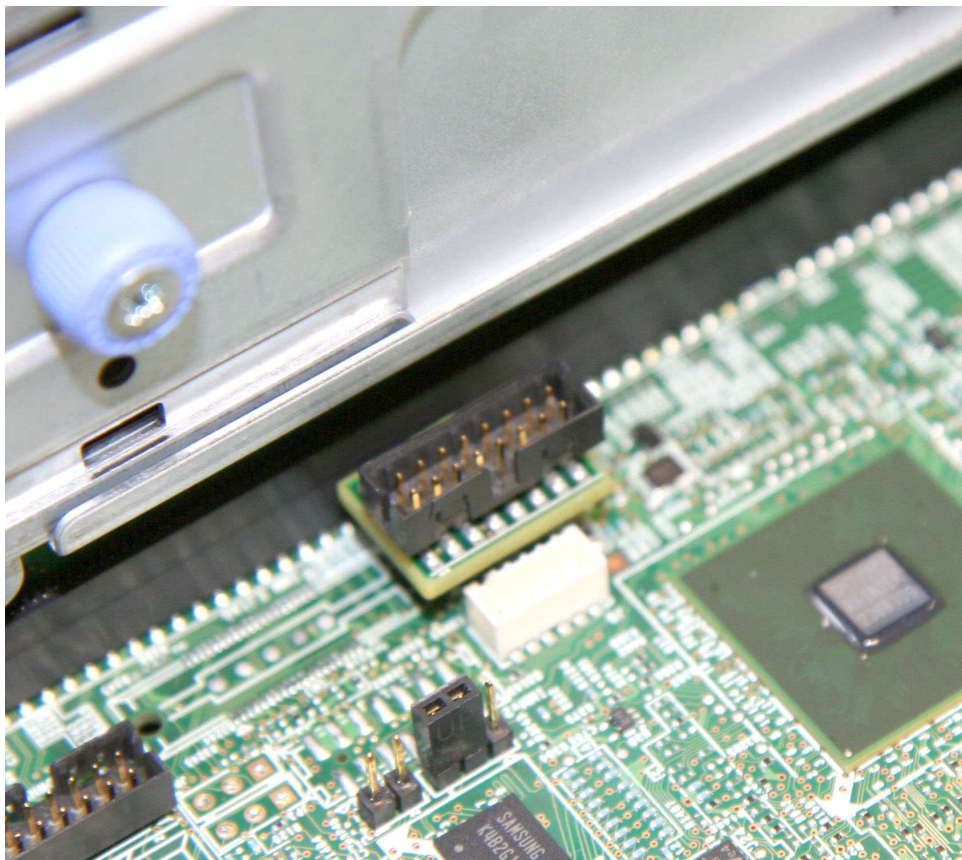

Figure 160. The LPC adapter that is fitted to the LPC connector on the system board, two views
3. Remove the LPC adapter board from the LPC connector on the system board, as shown in Figure 160 on page 193.